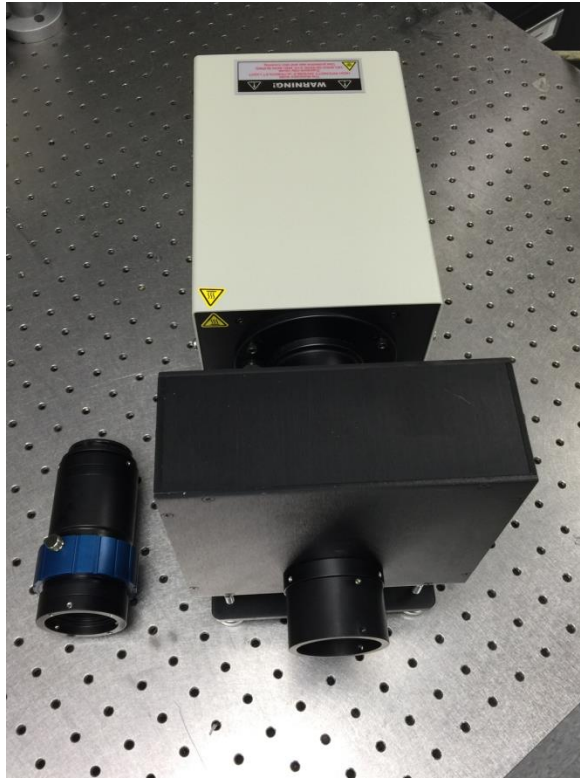

Figure 4: Front lens assembly and integrated light source
1. Remove the top piece of foam to reveal the integrated arc lamp/QTH source. Remove the integrated light source from the protective foam. The two items as shown in Figure 4 are now ready for assembly.